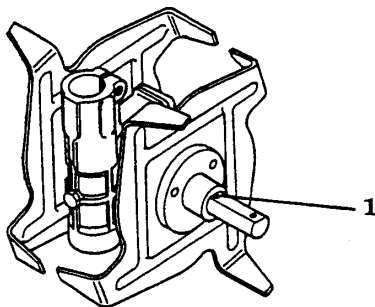

FIG. 10
1. (FIG. 10) Start with the left side. Select the tine that is stamped with a "B". Install the tine (on the left tine shaft) with the hub facing to the left (outward).
**NOTE.** (FIG. 10) The two inner tines may be used alone for a reduced tilling width (6"), as opposed to the full 9" width with all four tines attached. To secure the two inner tines, insert the snap pins through the inner (1) set of holes in the shaft.